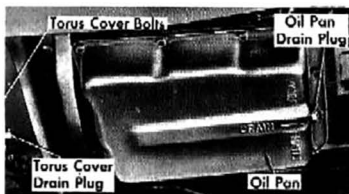

Fig. 81—Drain Plugs on Transmission Without Cooler
Remove torus cover drain plug (fig. 81) and thoroughly drain torus cover.
2. Remove oil pan drain plug (fig. 81) and thoroughly drain oil pan.